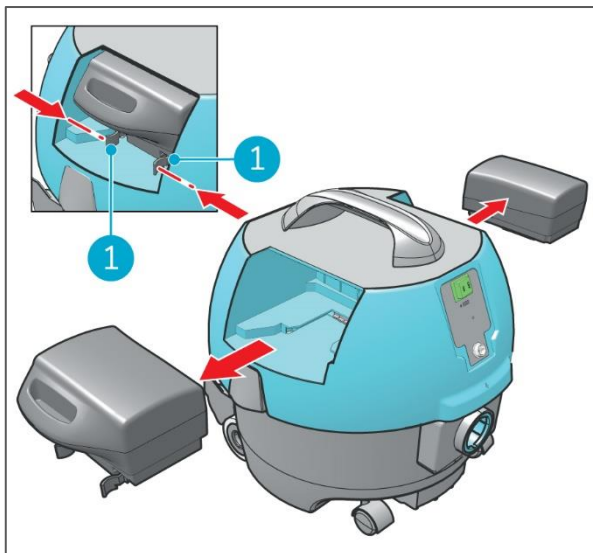

Figure 21
1. Press the plastic clips of the battery (Figure 21, pos 1) slightly towards each other.